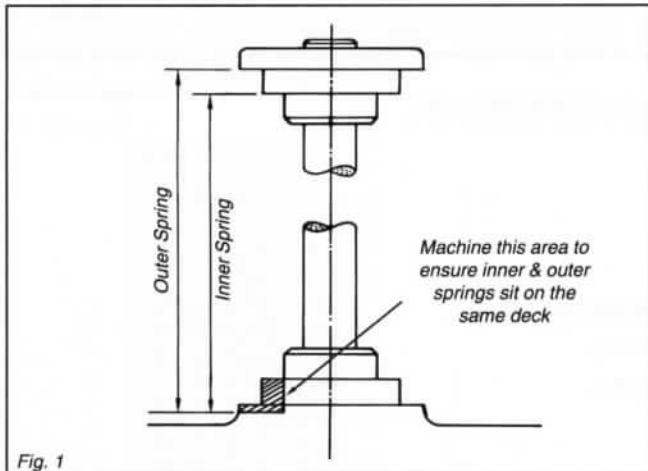

Fig. 1
6. When using KENT valve springs ensure they are fitted as per instructions with the correct installed height. In some instances the cylinder head will need machining. (Fig. 1)